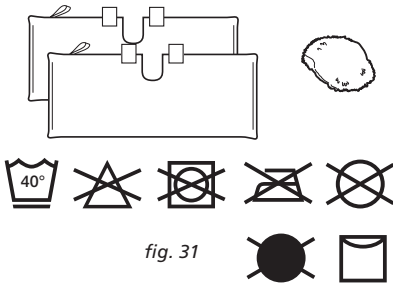

fig. 31
- 1 We recommend washing your cleaning pad separately from other fabrics to avoid picking up lint. **Only use liquid detergent (no powder detergent). Do not use any fabric softeners or bleach.** Line dry. Do not tumble dry. (fig. 31)